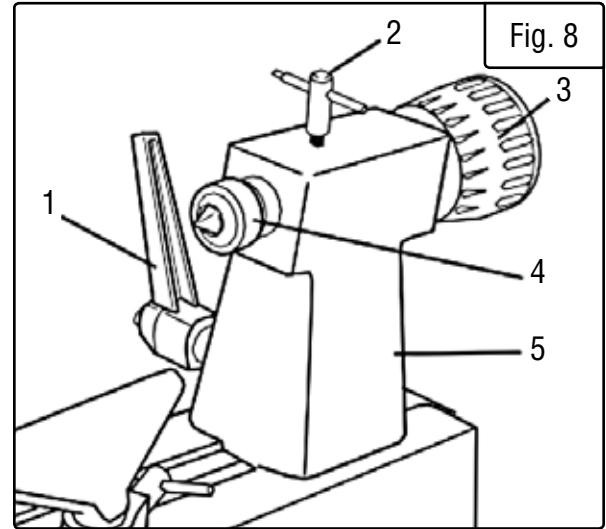

Fig. 8
1. Move the tailstock (Fig. 8 - 5) by loosening the lock lever (Fig. 8 - 1) and pushing the tailstock to the desired position on the bed. Lock it back in place by tightening the lock lever again.
2. The quill extends up to 2-1/2 inches from the tailstock housing. Move the tailstock quill (Fig. 8 - 4) by loosening the quill lock lever (Fig. 8 - 2) and turning the hand wheel (Fig. 8 - 3). Turn the hand wheel clockwise to extend the quill. Turn the hand wheel counter-clockwise to retract the quill.
3. Lock the levers (Fig. 8 - 1 & 2) before operating the lathe.